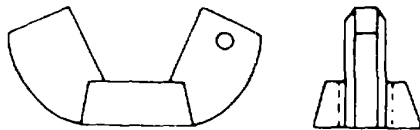

Figure 2-26. Wingnut
f. *Wingnuts.* Use MS35425 and MS35426 wingnuts, as shown in figure 2-26, where desired tightness is ordinarily obtained by the fingers, and where the assembly is removed frequently. When a plain wingnut requires securing with lockwire, a 0.070 inch ( $\pm 0.010$  inch) diameter hole must be drilled in the center of one lobe. The WC02 self-locking wingnut does not require lockwire.